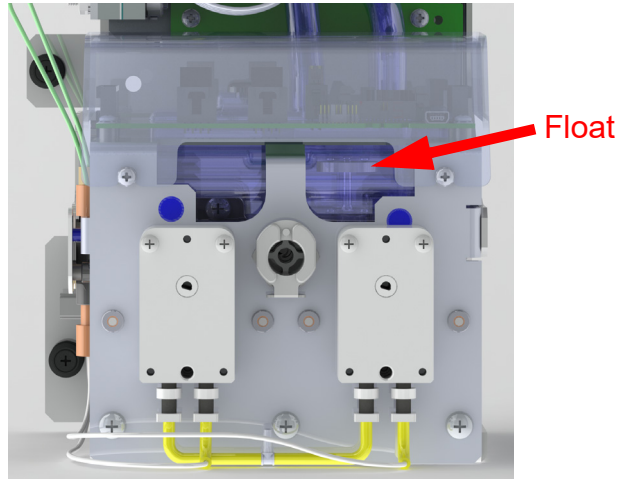

Figure 85: DI Reservoir Level with Float
4. Squeeze the bottle to fill the DI reservoir until the water line reaches **JUST BELOW** the top of the reservoir. Use the float seen through the window as a guide, as shown in Figure 85.
5. Loosen the lid of the dispensing bottle (C).
8. Verify that the water line is **JUST BELOW** the top of the reservoir, as shown in Figure 85: DI Reservoir Level with Float. Add water as needed. See “To fill the DI water reservoir” on page 257.